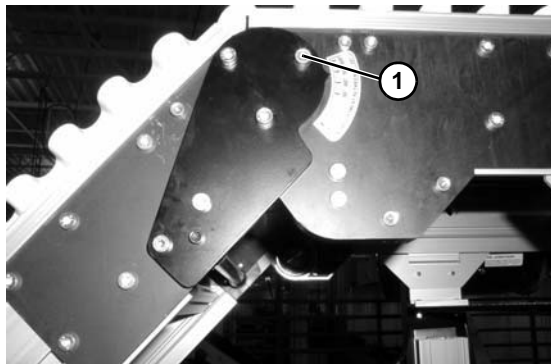
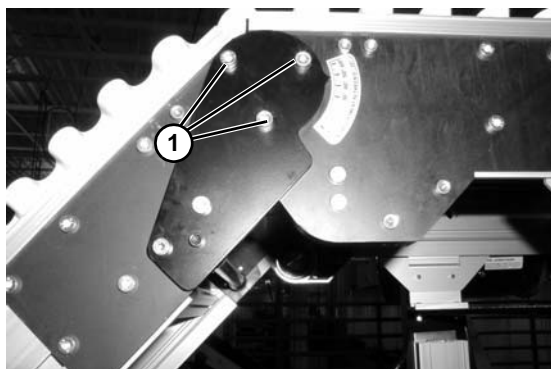

Figure 46
Figure 48
1. Conveyor is shipped from factory locked in the flat position, to unlock conveyor knuckle remove the gold screw (Figure 46, item 1) on both sides of the conveyor.
3. Loosen screws (Figure 48, item 1) on both sides of knuckle.
5. Tighten screws (Figure 48, item 1) on both sides of knuckle to 100 in-lbs (12 Nm). If applicable, replace the gold locking screw (Figure 46, item 1).
5. Tighten screws (**Figure 48, item 1**) on both sides of knuckle to 100 in-lbs (12 Nm).